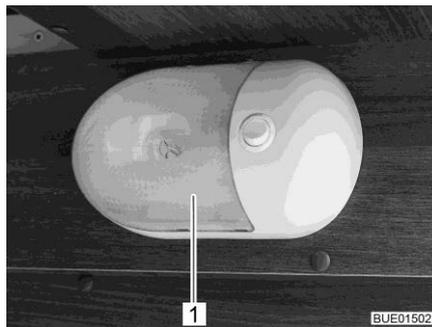

Fig. 298 Surface mounted light
- Carefully push the transparent cover (Fig. 298,1) together from both sides, pull it lightly from the switch and pull it off forwards.